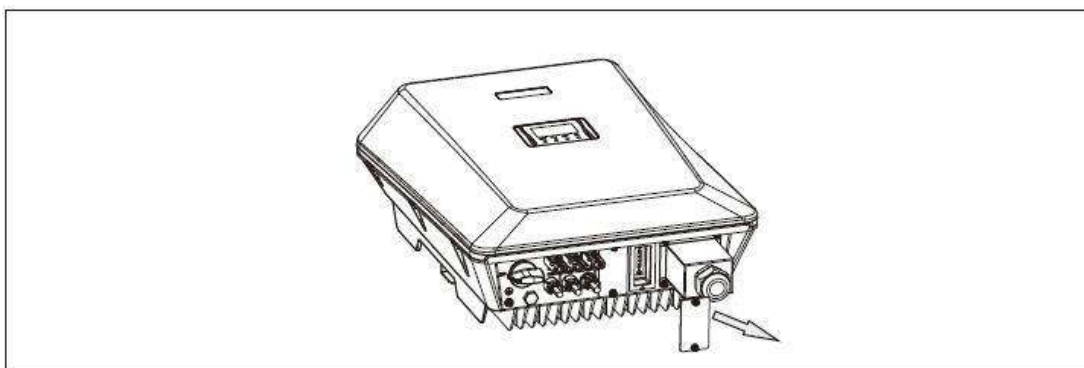

Figure 5.21 Removing the metal plate
Step 2 Remove the screws at the inverter bottom to remove the metal plate, shown in Figure 5.21.